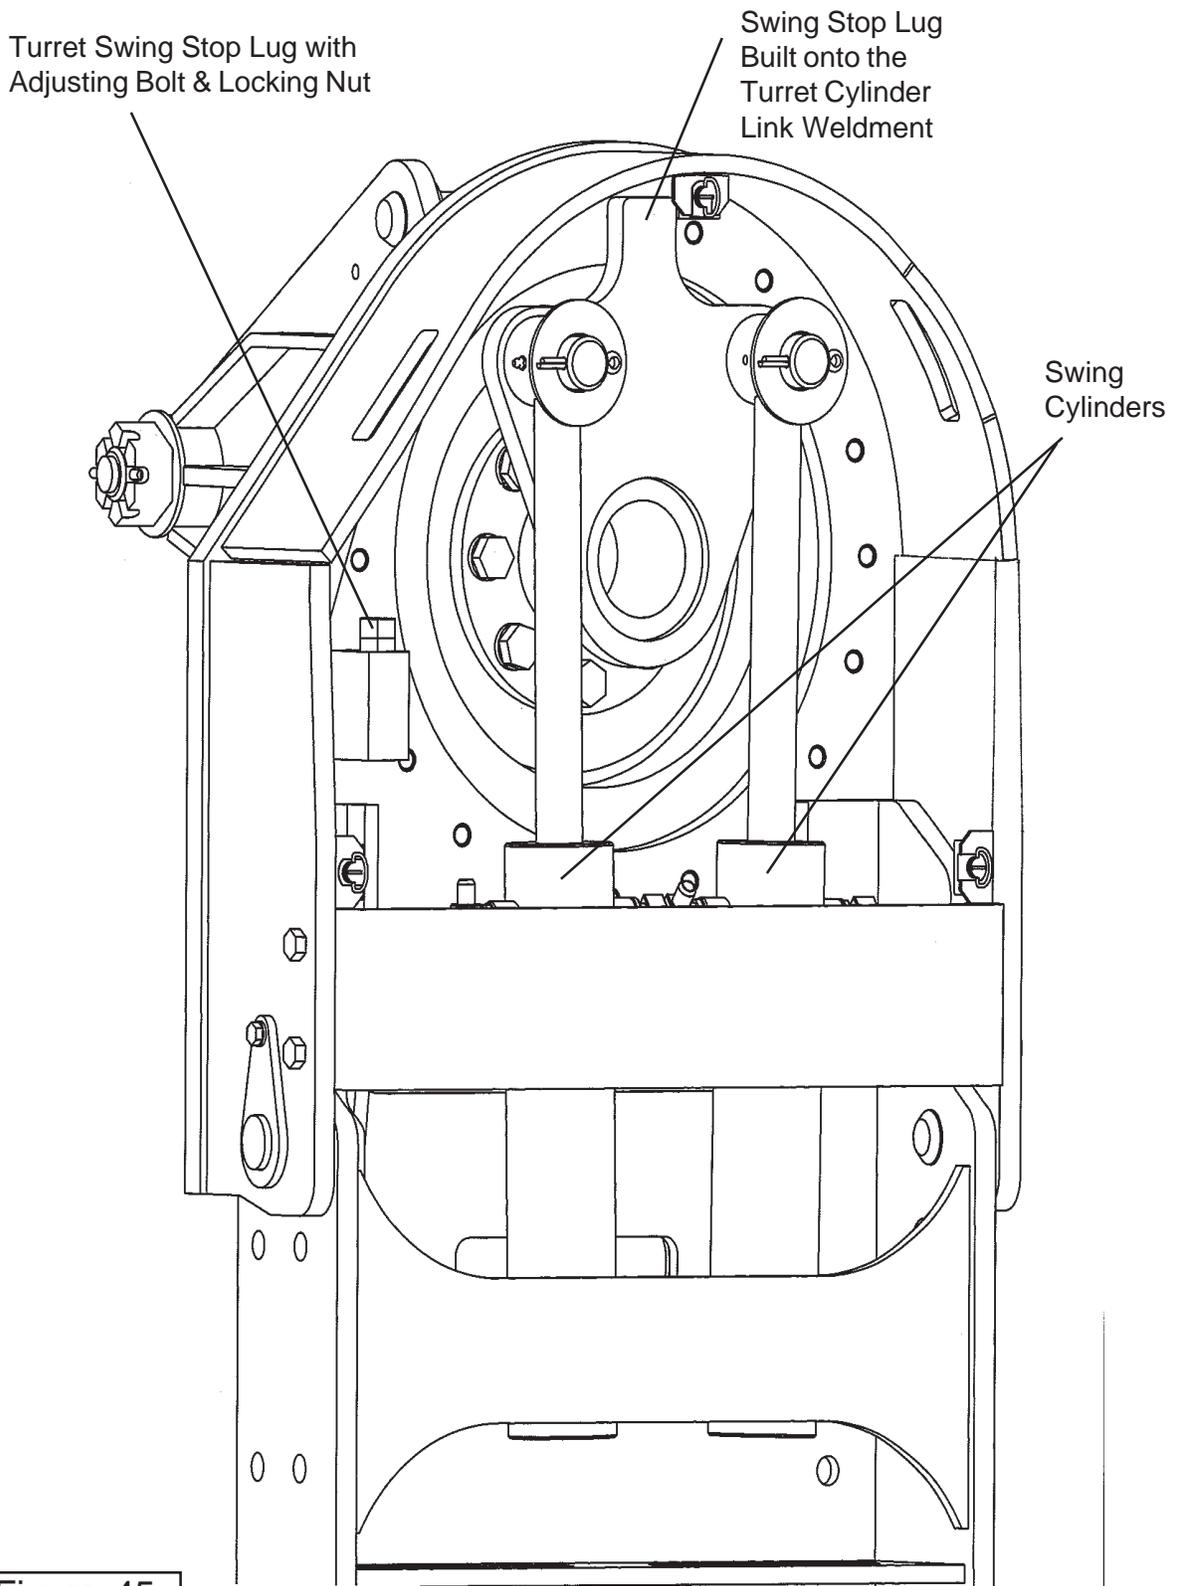

Figure 45
2. The Swing Stop Lug which is part of the Turret Cylinder Link Weldment (See Figure 45). On the side toward the rear there will be a lug with a bolt and locking nut in it (See Figure 45). Loosen the bolt and locking nut, turn the bolt outward.
4. Final Swing Stop Adjustment. Unscrew the stop bolt (See Figure 45) until the head is against the swing stop lug of the turret cylinder link weldment (See Figure 45). Hold the bolt so it won't turn tighten the locking nut down against the turret stop swing lug. Recheck to make certain the boom will not hit the cab of the tractor. It will stop at the turret stop lug when properly adjusted. This may have to be